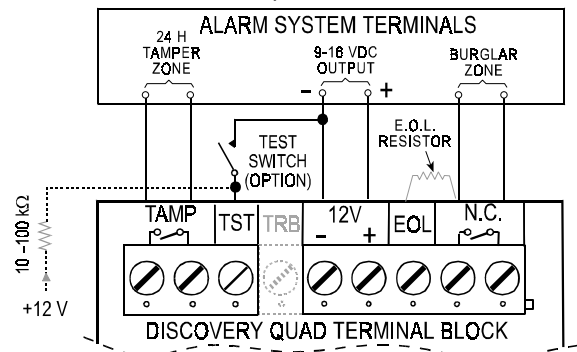

Figure 13. Terminal Block Wiring
The terminal block wiring shown in Figure 13 is self explanatory. **Note:** The E.O.L. terminal is simply a connection point for an E.O.L. resistor, if the circuit requires one.
- Applying +12 VDC to the TST terminal (as shown in Figure 13) or letting the terminal "float" will disable the LED.